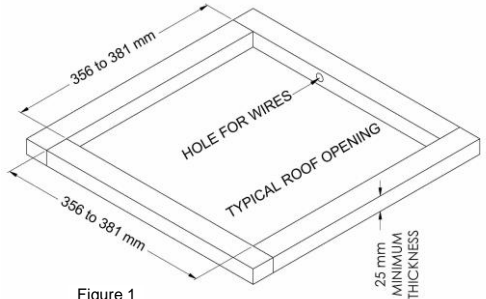

Figure 1
3. Examine the roof opening. If the opening is smaller than the roof opening required for the ceiling assembly in Figure 1, the opening must be enlarged.
B. If a roof vent opening is not used, a new opening (See Figure 1) will have to be cut into the vehicle roof. A matching opening will also have to be cut into the interior vehicle ceiling. If the ceiling opening is carpeted, snagging could occur. After the opening in the roof and interior ceiling are the correct size, a framed support structure must be provided between the exterior roof top and the interior ceiling. The reinforced frame structure must provide the following:
Airxcel, Inc. recommends that the spacing from the vehicle roof top to the interior ceiling be no less than 25mm. A typical support frame is shown in Figure 1. The frame must provide an opening through the frame to allow passage for the power supply wiring. Route the supply wiring through the frame at the same time the support frame is being installed.